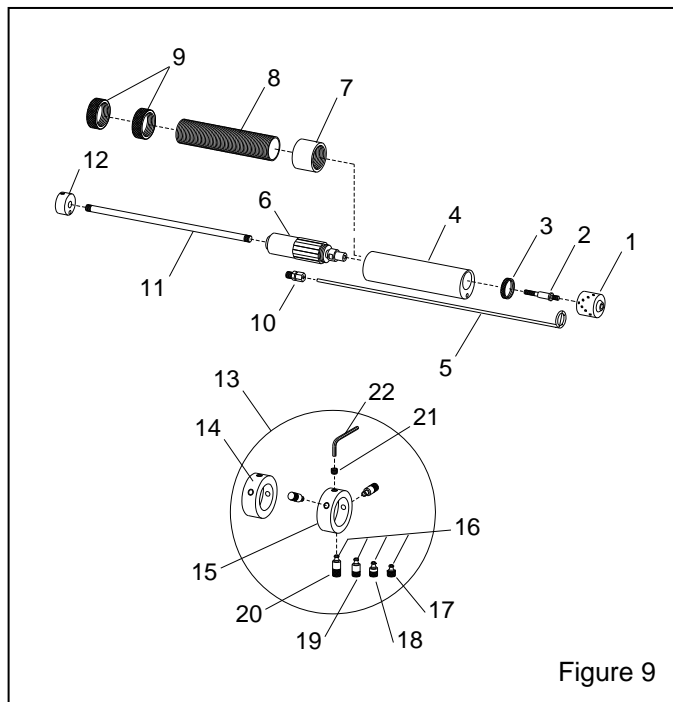

Figure 9
8.3 Spin-Kote 25 with 1-1/2" Head, Figure 9